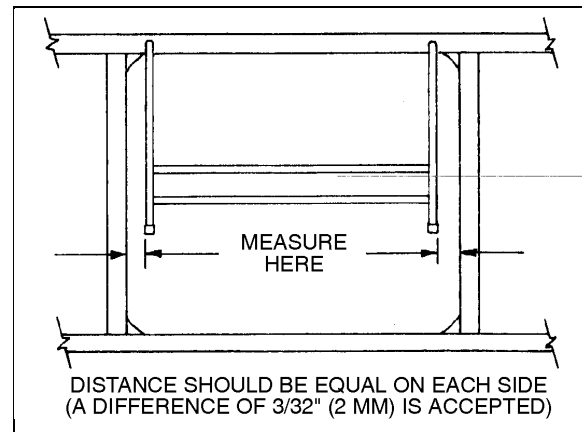

FIGURE 21: BAGGAGE COMPARTMENT DOOR 18063
3. Measure distance between a pantograph arm end and the structure. Repeat procedure for the other arm. The distance on each side should be equal as the pantograph arm assembly must be centered in baggage compartment opening. If not, bend the appropriate pantograph arm end until desired measure is obtained. A difference of  $3/32$ " (2 mm) between both sides is accepted. Refer to figure 21.